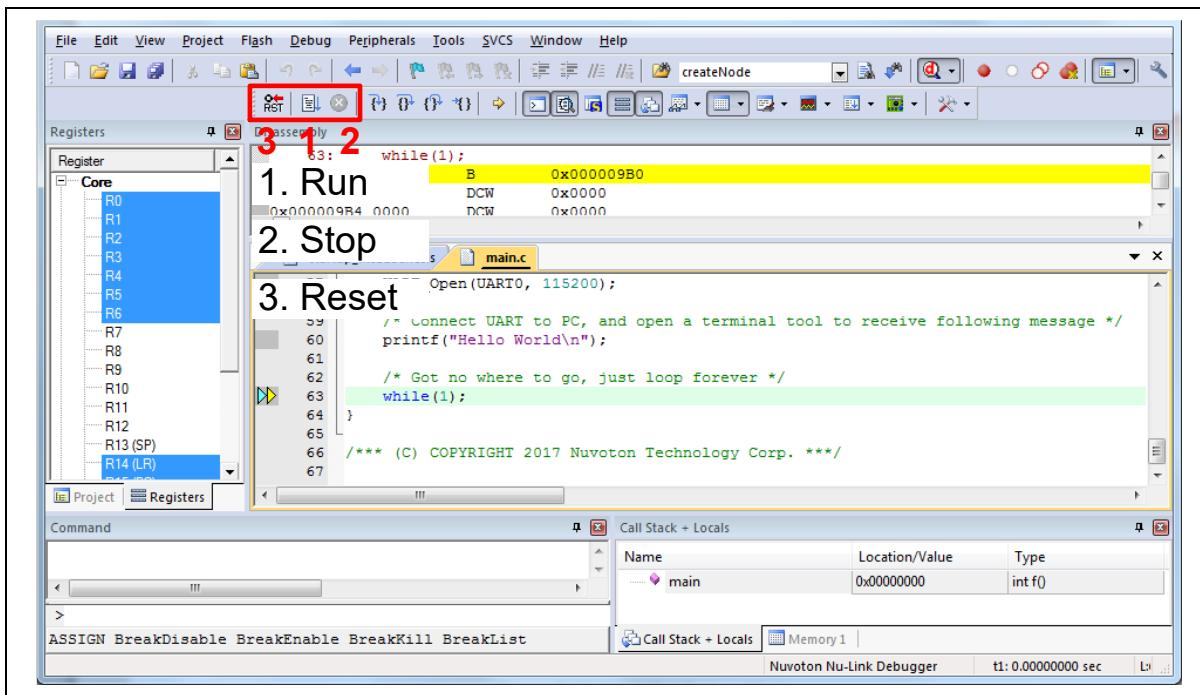
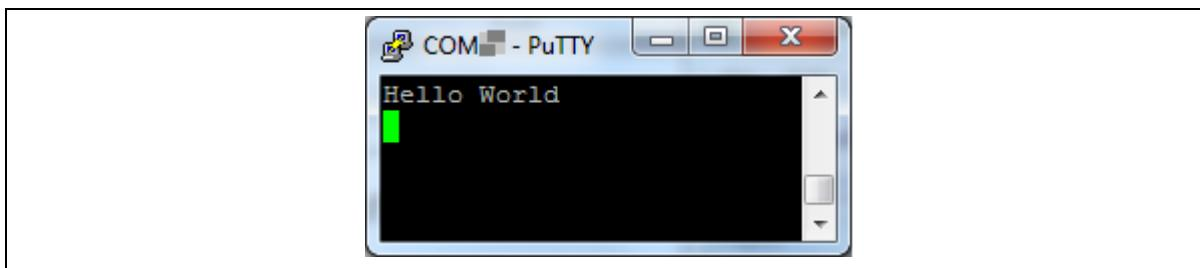

Figure 4-13 Keil MDK Debug Mode
Figure 4-14 Debug Message on Serial Port Terminal Windows
4. Figure 4-13 shows the debug mode under Keil MDK. Click “Run” and the debug message will be printed out as shown in Figure 4-14. User can debug the project under debug mode by checking source code, assembly language, peripherals’ registers, and setting breakpoint, step run, value